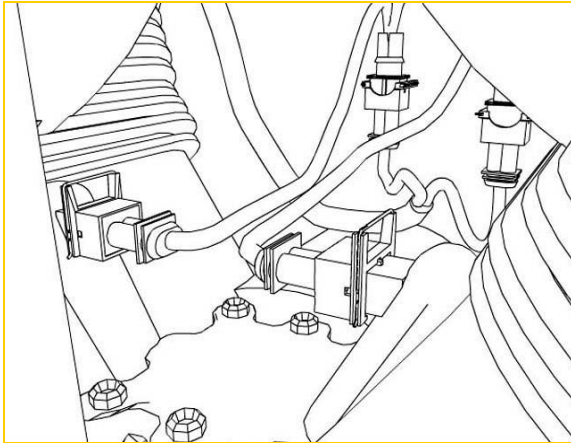

Fig 13
17. Install the horn. (fig 13)